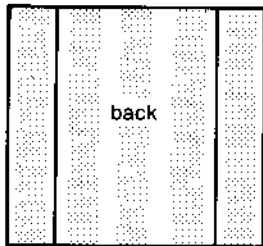

FIGURE 1
- For the back, cut one of the 31" (79 cm) lengths into three strips. Sew one of these strips to each side of the other uncut 31" (79 cm) length of fabric. (Fig. 1). (The left-over strip may be used for cuffs or sash.)